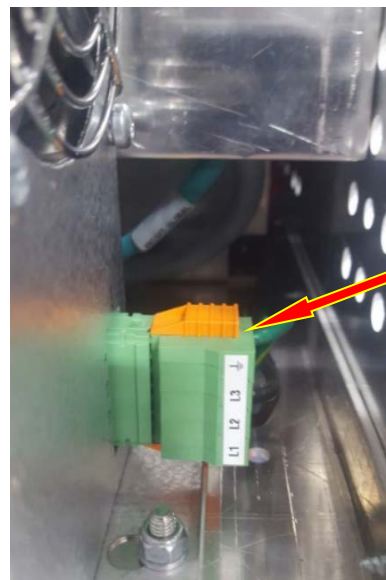

Figure 5
- D) Disconnect the power connector from the other side of the old drive. See Figure 5.